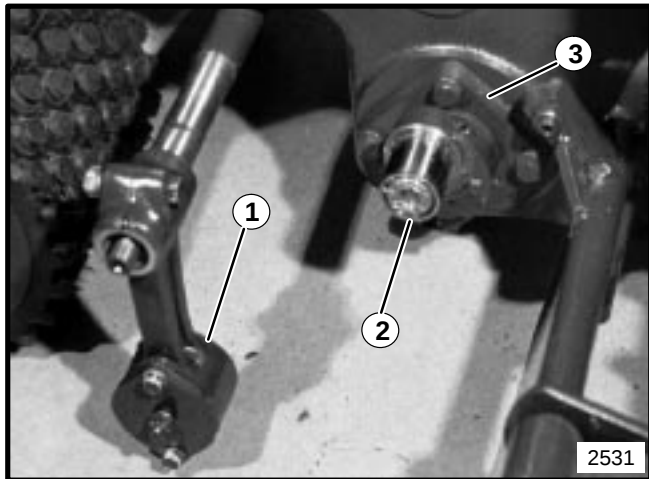

FIGURE 45
9. Remove side arm from one side of unit. Remove the two (2) screws securing the top of side arm assembly and remove the nut securing side arm on lower shaft.
10. Loosen the clamp screw on the pitman arm and the clamp screw on the eccentric assembly. Remove from shafts. See Figure 45.